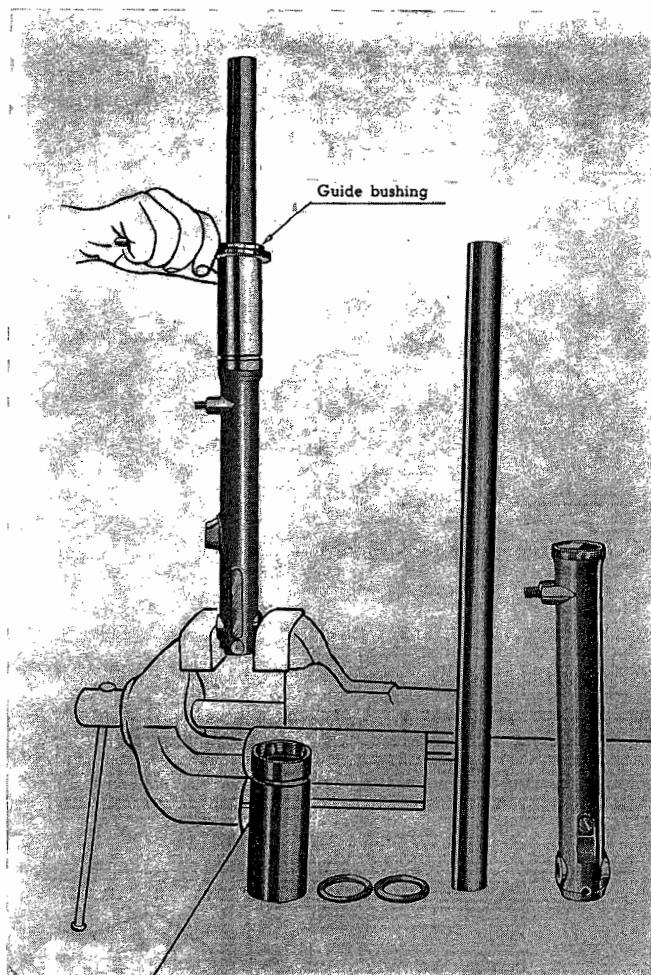

Fig. 111
At the end of the dust-cover insert the guiding bush (see Fig. 111); then screw in with a standard hook wrench (111).